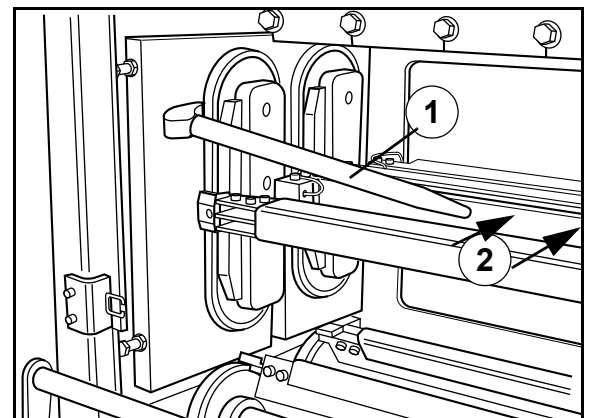

Fig. 31
- 2 Move the sealbars so they are horisontaly in line, see Fig. 31